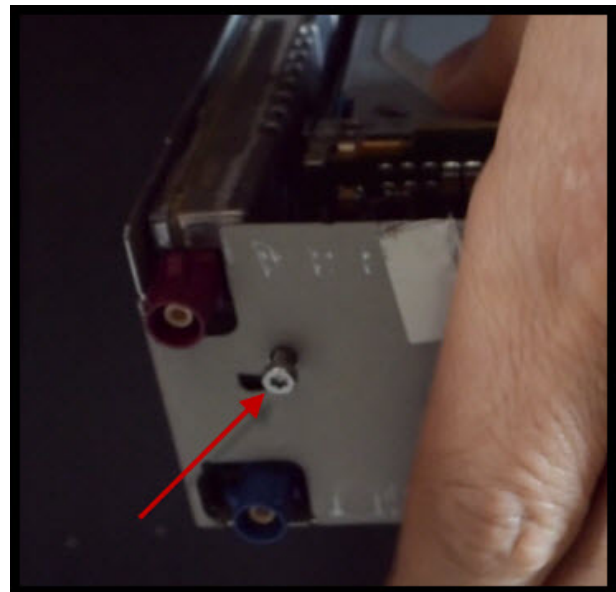

Figure 10. Telephone module retaining screw indicated by the red arrow.
10. On the back of the main unit, remove the retaining screw that holds the telephone module in place (Figure 10).